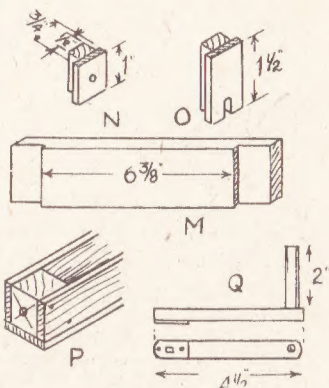

Fig. 3
The handle (Q) in Fig. 3, is a length of  $\frac{1}{2}$  in. by  $\frac{1}{2}$  in. wood, cut to the measurement given. In one end, that which goes over the roller spindle, cut a square hole. The end of the spindle should be filed roughly square to tightly fit this.